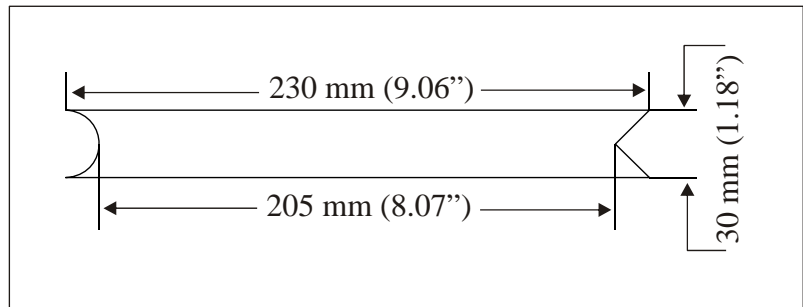

Figure 17 Pedal Fix Template
- 3 Fix pedals using templates as shown in Figure 17.